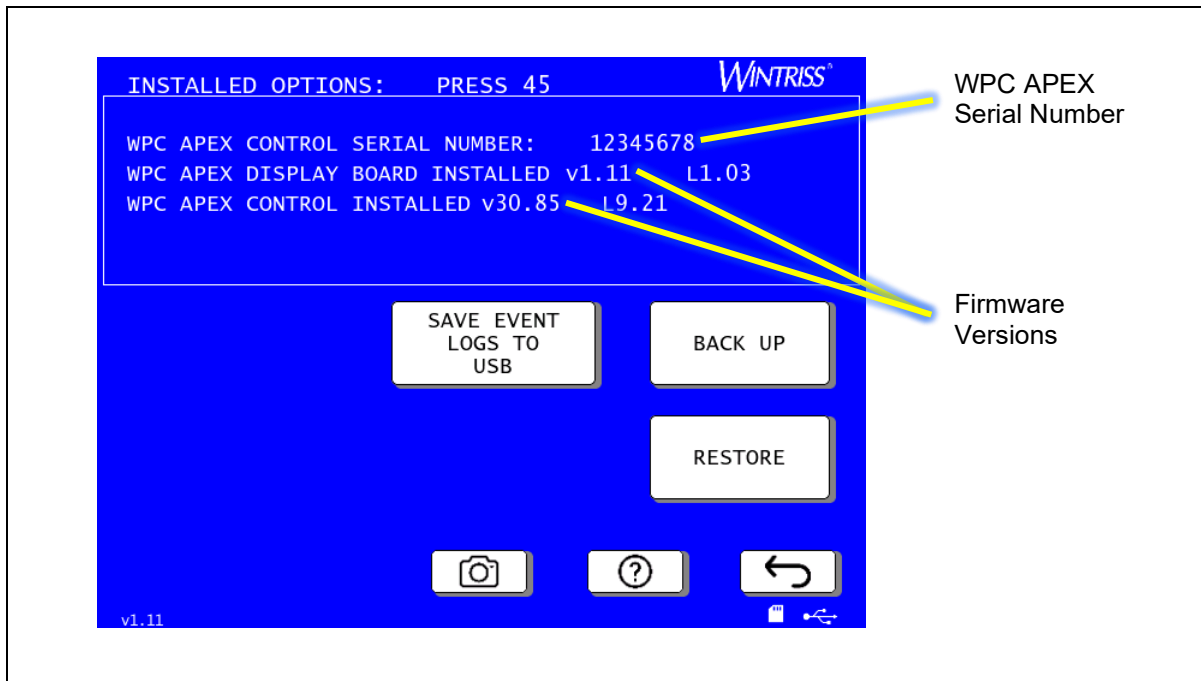

Figure 3-19. Installed Options Screen
In addition to showing installed options, the Installed Options screen also shows the WPC APEX serial number and the firmware versions for the display and control boards, as indicated in Figure 3-19.
2. On the WPC Initialization menu, Figure 3-2, press PREV or NEXT to access additional choices. Press INSTALLED OPTIONS, The installed options screen appears, Figure 3-19. It lists the unit serial number and installed boards, including display, control, and option boards, if any.
2. On the WPC Initialization menu, Figure 3-2, press PREV or NEXT to access additional choices. Press INSTALLED OPTIONS, The installed options screen appears, Figure 3-19.
3. On the WPC Initialization menu, press PREV or NEXT to access additional choices. Press INSTALLED OPTIONS. The installed options screen appears, Figure 3-19.
3. On the WPC Initialization menu, press PREV or NEXT to access additional choices. Press INSTALLED OPTIONS, The installed options screen appears, Figure 3-19.
1. To change language on the display, if you have the language option installed, navigate to the installed options screen, Figure 3-19, and press SELECT LANGUAGE. The select language screen appears, Figure 3-21.